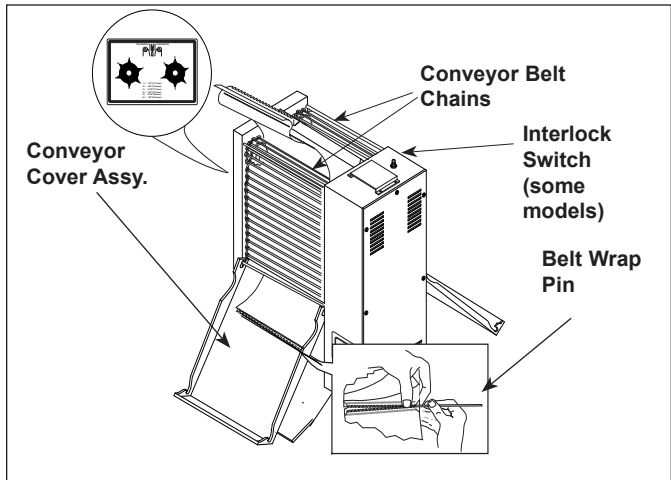

Figure 6. Removing Belt Wrap
3. Open both Conveyor Covers and pull the Belt Wrap Pin out of the zipper (Figure 6).